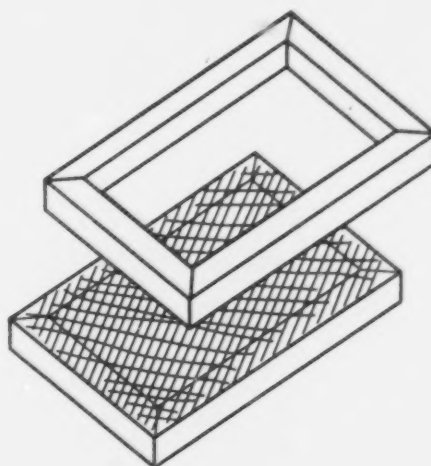

Figure 3 - Mold and Deckle
1. You will need to make a mold and deckle. Mahogany works well for the frames because it doesn't tend to spot and warp when wet. The mold and deckle is illustrated in Figure 3.
4. Place the deckle and mold together as shown in Fig. 3 and then scoop the assembly into the container. It should be a kind of scooping or dipping motion where you move the assembly in vertically and flatten it out as you continue to immerse into the liquid.